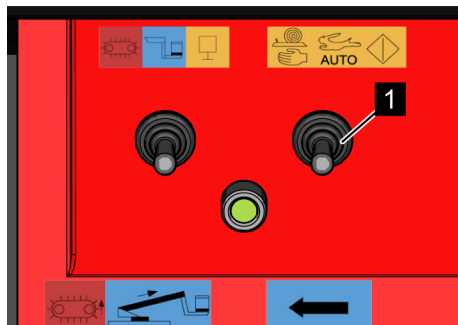

Fig. 53: Radio control
- Toggle switch (Fig. 53/1) left (snail symbol): Crawl speed
- Toggle switch (Fig. 53/1) in the middle (rabbit symbol): Fast